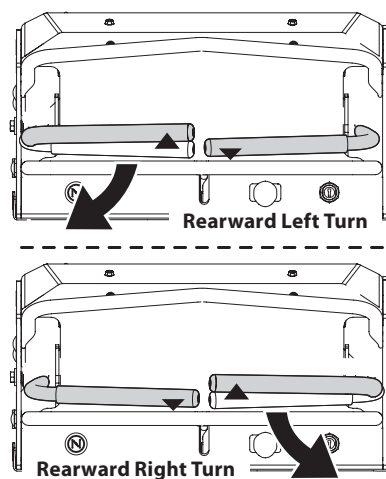

Fig. 14
1. To turn to the left while traveling in reverse, move the left drive control lever forward of the right drive control lever (Fig. 14).
2. To turn to the right while traveling in reverse, move the right drive control lever forward of the left drive control lever (Fig. 14).